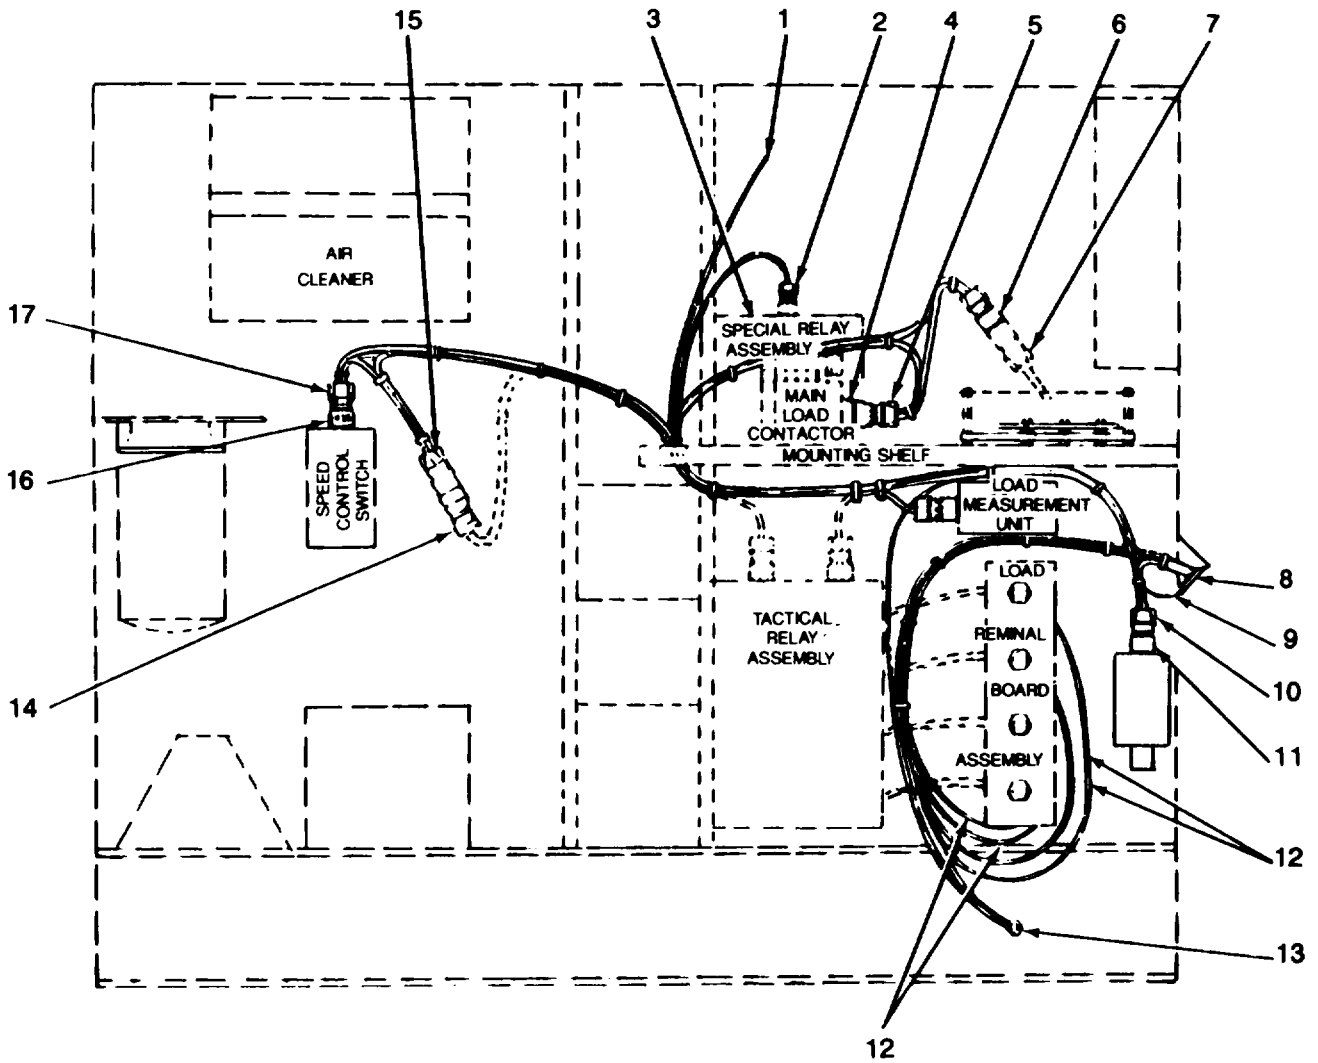

Figure 5-25. Application Kit Cable Harness Assembly Installation (Right Side)
- (d) Feed cable harness assembly (1, figure 5-25), attached to connector plate assembly (2), through the opening made by the removal of plate and sleeve assembly.
Insure the dust rover retaining chain (figure 5-25) on connector J1 is mounted on the lower right hand mounting screw of connector. A third lockwasher is added between the mounting nut and ground lug on connector mounting screw.
- (d) Route remaining eleven No. 16 AWG wires between top of load measurement unit and bottom of mounting shelf (refer to figure 5-25).
- (e) Locate three wires (P18A16N, P18B16N, and P18C16N) with a ring type terminal lug. Route the wire downward between load terminal board assembly and tactical relay assembly to generator set chassis grounding stud (13, figure 5-25). Remove ground stud nut, place ring type terminal over stud on the inside of generator set. Replace nut and tighten securely.
- (g) Position cable branch consisting of four wires ending in screw connectors P4 and J3 (5 and 6, figure 5-25) rearward on the relay table top between main lead contactor and the special relay assy. Disconnect main load contactor connector.
- (h) Route single wire ending in screw in screw-type connector P7 (2) to connecting point J29 (3) on top of special relay assembly. Remove dust cover and connect P7 to J29.
- (j) Route two remaining wires ending in the screw- type connectors P6 and J5 (15 & 17, figure 5-25) into engine compartment following path of existing wires to the engine speed switch. Disconnect existing speed switch plug (14, figure 5-25) from its connector (16) and connect cable harness connector (17) in its place. Connect existing plug (14) to remaining cable harness connector (15).
(d) Connect test leads of ohmmeter to pins E and M on connector J1 (8, figure 5-25). Ohmmeter should indicate continuity.